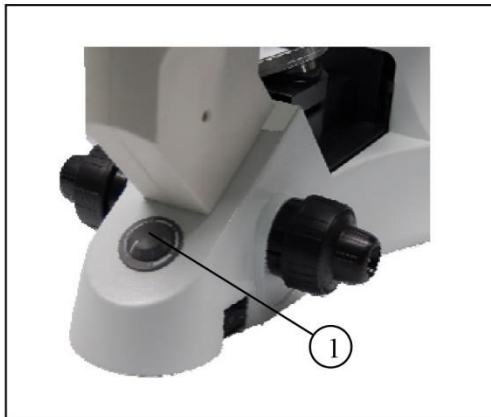

Figure 16
3.1.2. Adjusting the brightness (Figure 16)